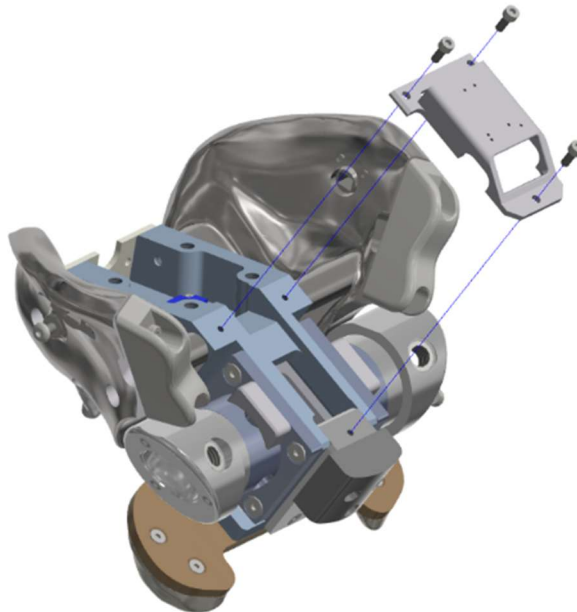

Figure 8-12. Remove the Pelvis Cable Cover (474-4010)
- 8.2.8 Remove the Pelvis Cable Cover (474-4010) by removing three M4 X 0.7 X 10 LG. SHCS (Figure 8-12).